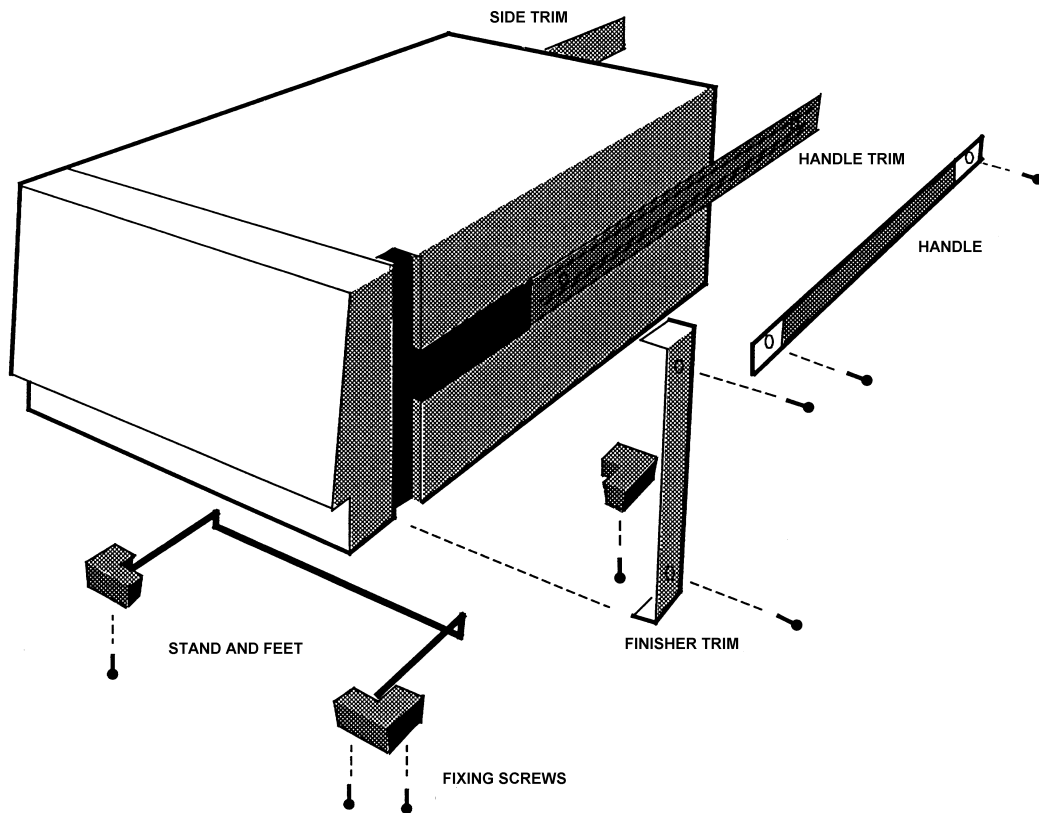

Figure 2.3 - Removal of trims, handle, feet, and tilt bar
1. As shown in Figure 2.3, remove the following items from the instrument: